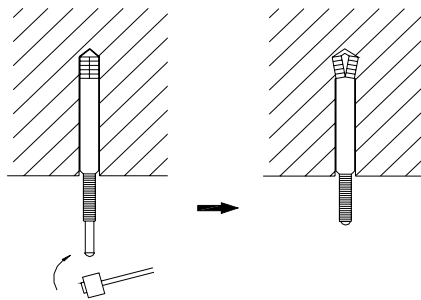

Fig.1.1.1
- 3) Insert a M10 expansion bolt into the hole. Drive a nail into the bolt. Refer to the profile dimensions drawing of the indoor unit for the distance between the holes. Refer to Fig.1.1.1 shows for the installation of the expansion bolt.